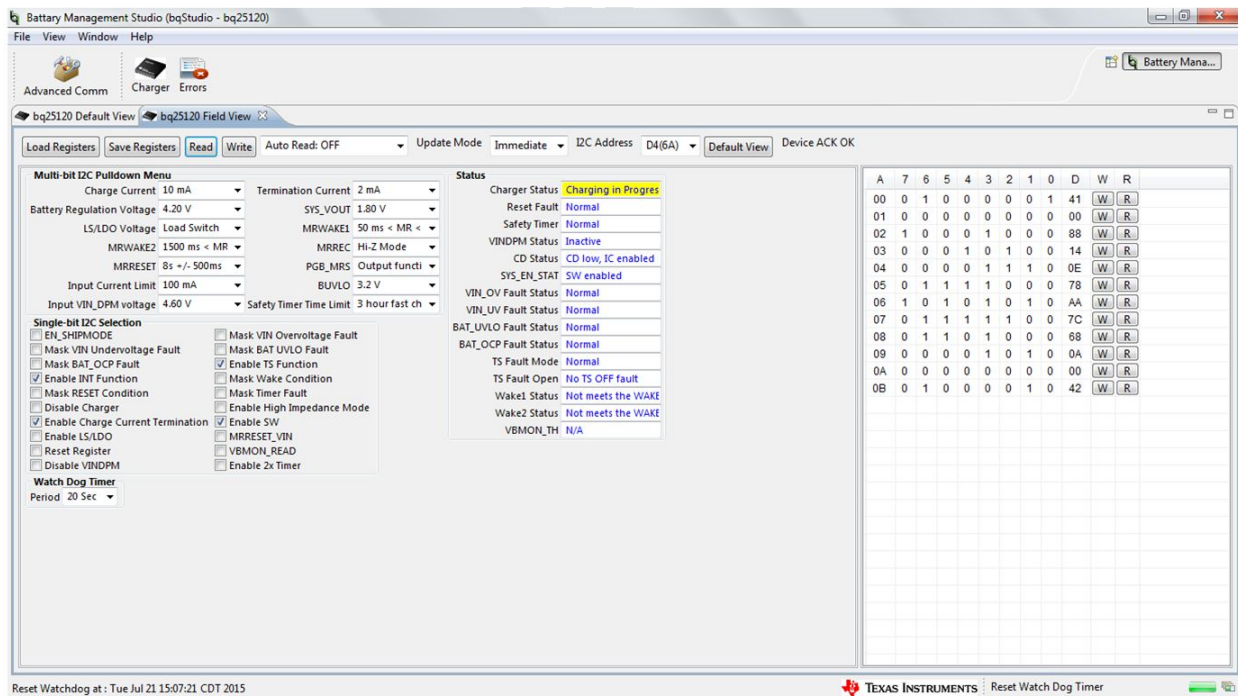

Figure 5. bq25120 Software GUI
3. Open Software GUI and go to “Field View” page (as shown in Figure 5).